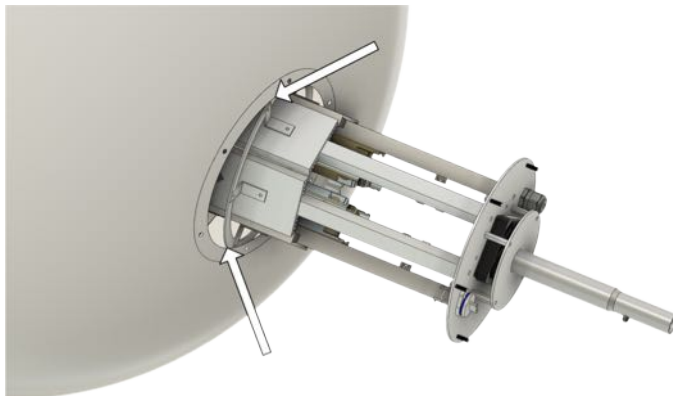

Abb. 8
5. Use the same procedure to remove the cover over the LED protection rings and the cover plate (Fig. 8).